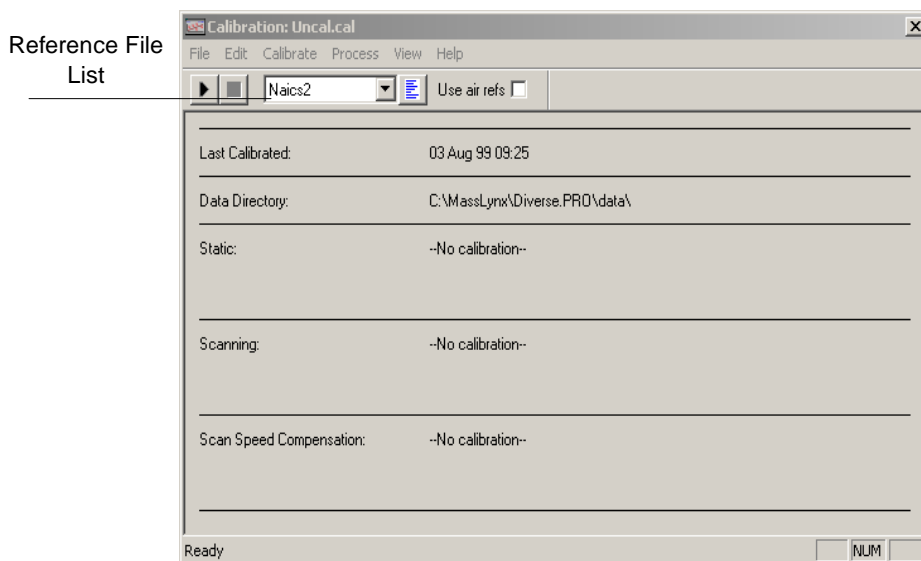
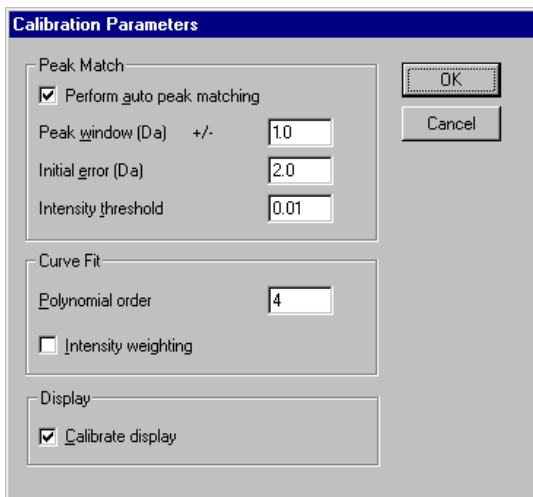

Figure 4-1 Calibration Window
Figure 4-7 Calibration Parameters Dialog Box
1. Select **Calibration > Calibrate Instrument** from the Tune window (Figure 3-3). The Calibration window appears (Figure 4-1).
Select **Edit > AutoCal Check Parameters** from the Calibration window (Figure 4-1). The Automatic Calibration Check dialog box appears (Figure 4-6).
Select **Edit > Calibration Parameters** from the Calibration window (Figure 4-1) to open the Calibration Parameters dialog box (Figure 4-7).
Select **Edit > Calibrate Quad Mass Measure Parameters** from the Calibration window (Figure 4-1). The Mass Measure dialog box appears (Figure 4-8).